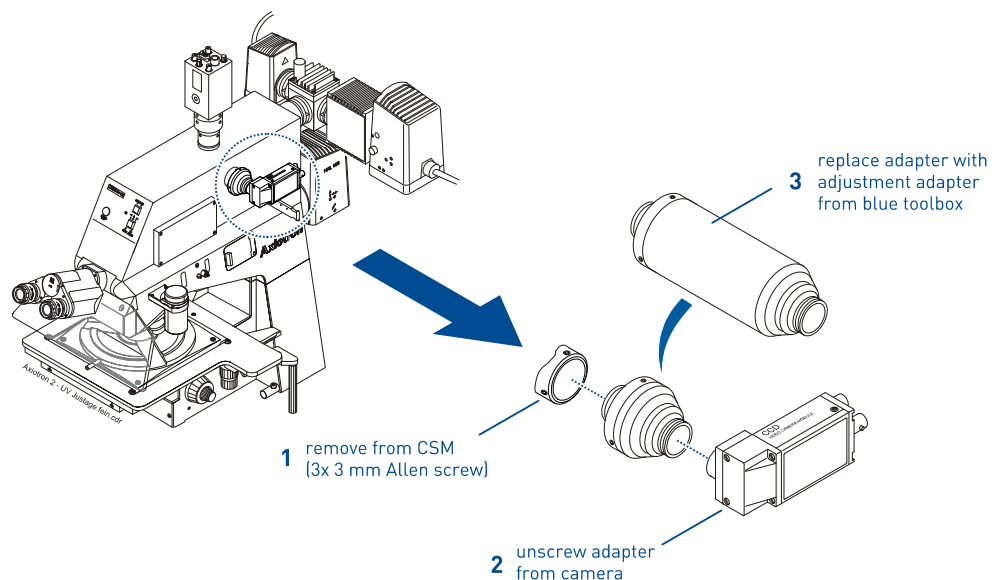

figure 59 Exchange of camera adapter for fine adjustment of UV illumination
- Locate the blue CSM tool box, which contains the adjustment tools for the CSM and take out the adjustment adapter as shown in figure 59 (No. 3).